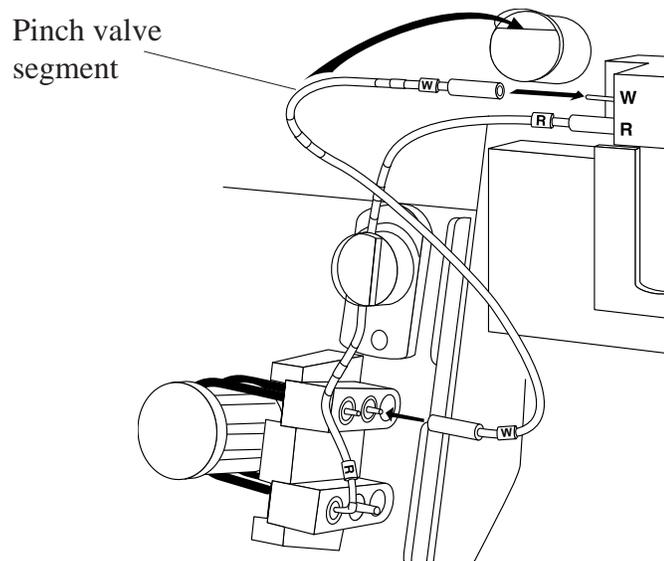

Figure 4.10 Connecting the W-line
5. Connect the line to the W-labelled outlet of the reference electrode and the middle of the top pump manifold. (See Figure 4.10.)